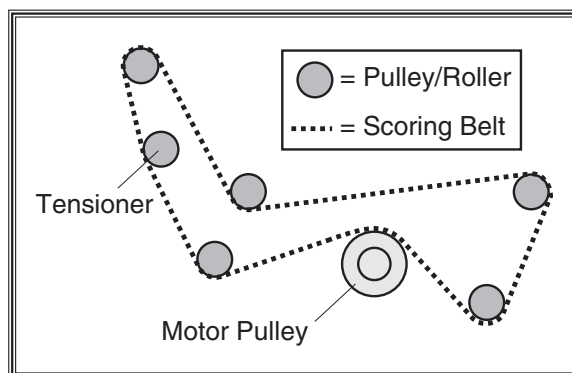

Figure 120. Scoring belt installation configuration.
5. Put the new scoring belt on the pulleys as shown in **Figure 120**, and push the tensioner against the scoring belt to take up any slack.